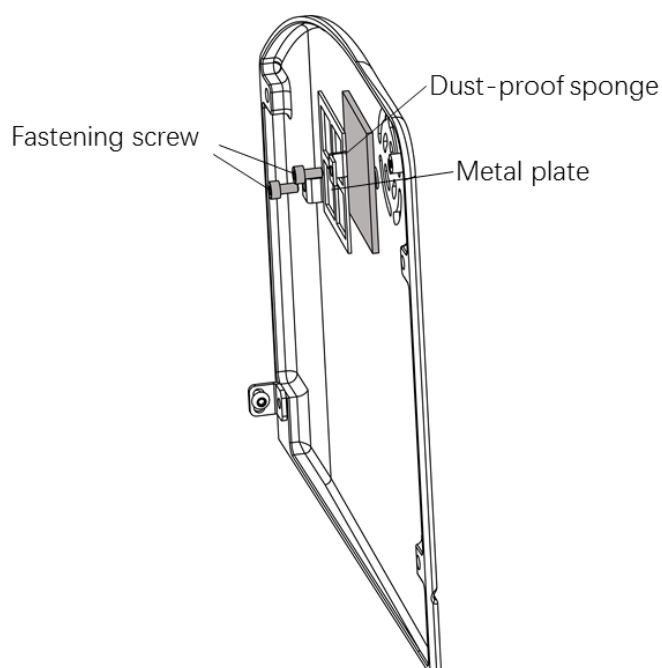

Figure 4-8 Dust-proof sponge
- Step 2** Use 2.5 mm Allen wrench to remove two screws from the metal plate, and remove the metal plate and dust-proof sponge, as shown in Figure 4-8.